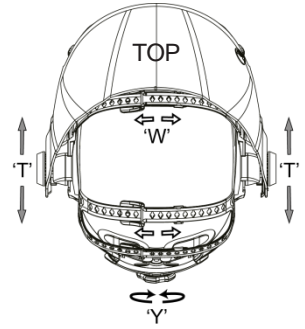

fig. 9
• The overall circumference of the headband can be made larger or smaller by rotating the knob on the back of the headband. (See adjustment “Y” in fig. 9). This can be done while wearing the helmet and allows just the right tension to be set to keep the helmet firmly on the head without it being too tight.
• If the headband is riding too high or too low on your head, adjust the strap which passes over the top of your head. To do this release the end of the band by pushing the locking pin out of the hole in the band. Slide the two portions of the band to a greater or lesser width as required and push the locking pin through the nearest hole. (See adjustment “W” in fig. 9).